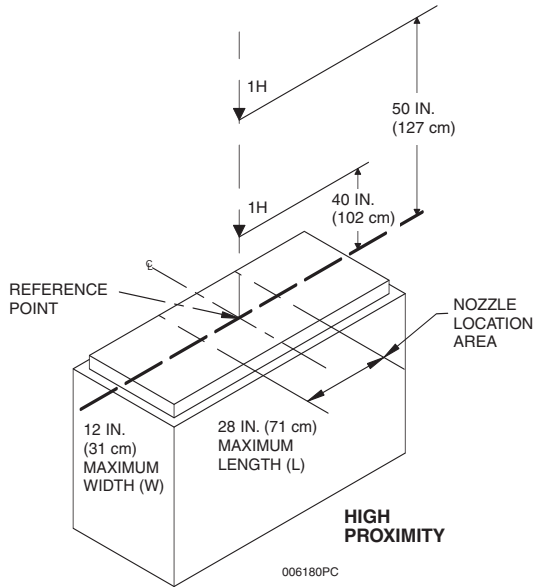

Figure 3-4.
The Model 1H nozzle, Part No. 551029, is used for high proximity small range protection. This nozzle is a one (1) flow nozzle. **When using high proximity protection, the range cannot be under a backshelf.** This nozzle must be located on the front/back centerline of the appliance, 40 in. to 50 in. (102 to 127 cm) above the cooking surface, and aimed directly down within the “Nozzle Location Area” depending on the size of the hazard area. See “Nozzle Placement” chart below. See **Figure 3-4**.